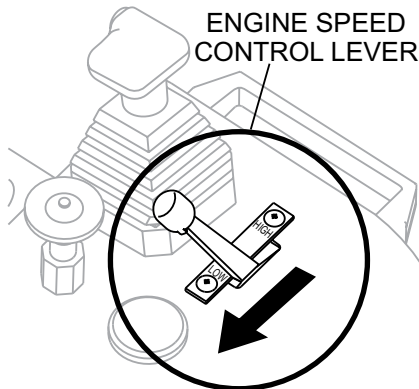

Figure 18. Engine Speed Control Lever Idle (Low Speed)
1. Return the engine speed control lever, (Figure 18) to low idle, and allow the engine to idle for a minimum 5 minutes.